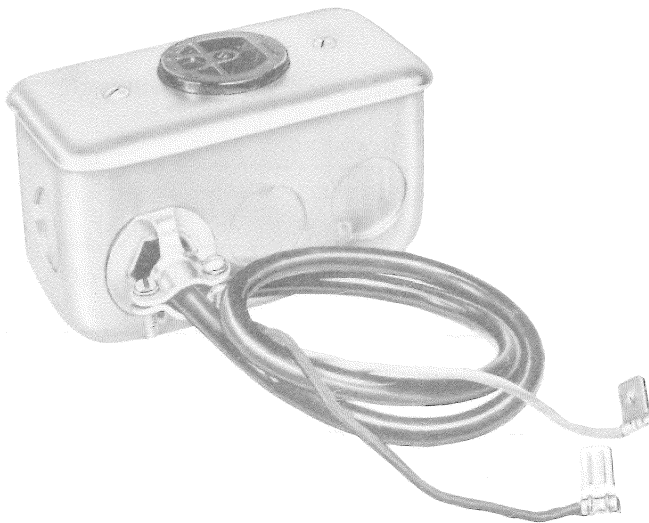

Fig. 2—KS-19580, List 51 Receptacle Assembly
2.11 In multiple installations, a KS-19580, List 51 receptacle assembly (Fig. 2) must be used in conjunction with a KS-19261 light control unit as follows: